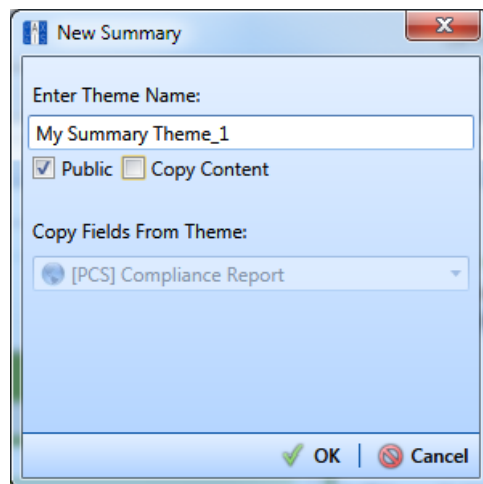

Figure 14-34. New Summary
- 5 Click  **Add** to open the *New Summary* dialog box (Figure 14-34).